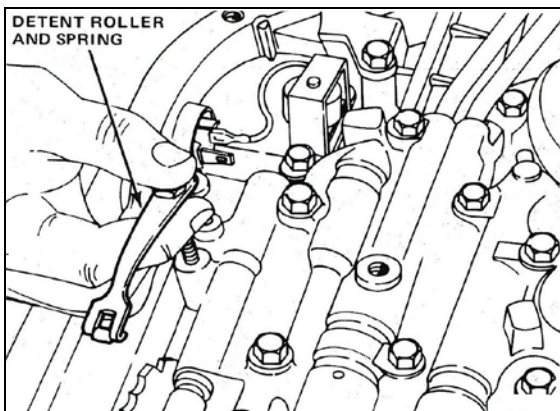
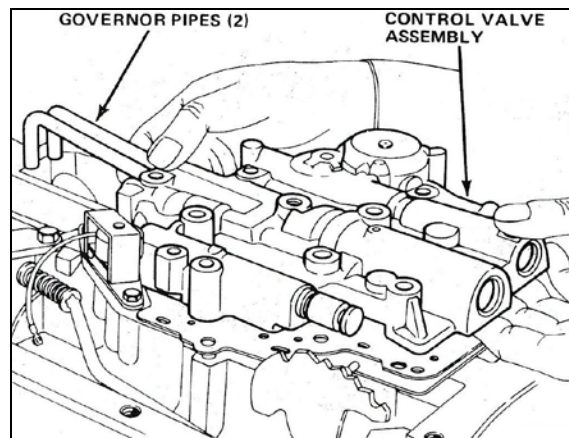

FIGURE 2-22
FIGURE 2-23
Remove the manual detent roller and spring assembly (48). See Figure 2-22. Using a 1/2" socket, remove eight or ten (model dependant) large valve body retaining bolts (47). Using a 7/16" socket, remove three small valve body retaining bolts (51). Lift the valve body assembly (49) and governor pipes (50) off of the valve body mounting flange of the transmission case. See Figure 2-23. Note that modified transmissions may not include governor pipes (50).